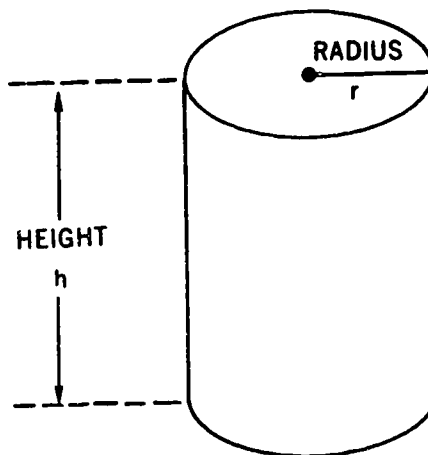

FIGURE 7
To find the volume of a cylinder, figure 7, you first find the area of the bottom, use $A = \pi R^2$ (circle). Then multiply the total area by the height (H) of the cylinder, or the third dimension. If all measurements are in feet, the answer will be cubic feet (ft³).